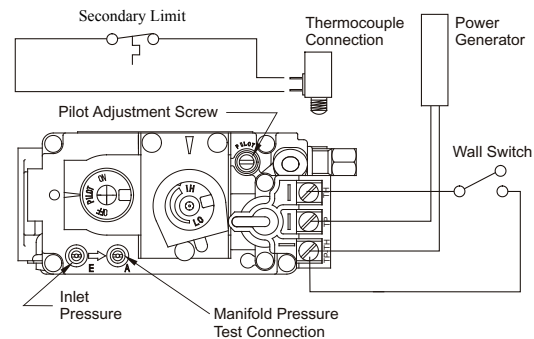

Figure 19. *Sit Nova 820* gas valve.
- Have the fireplace installation inspected yearly, including a visual check of the vent system, the burner and the pilot flame. For convenience a 1/8" manifold pressure tap is supplied on the gas valve for a test gauge connection. See Figure 19.
Pilot won't ignite	Disconnect remote wires and try to light pilot. If pilot now works, remote connections are faulty. Check wiring diagram figure 19 .
Main burner will not light	<ol style="list-style-type: none"> <li>1. Check wiring (see figure 19)</li> <li>2. Check wall switch for proper connection.</li> <li>3. Check pilot burner. If extinguished: <ol style="list-style-type: none"> <li>a. Allow fireplace to cool, then try to relight.</li> <li>b. If condition persists, call a qualified service person.</li> </ol> </li> </ol>